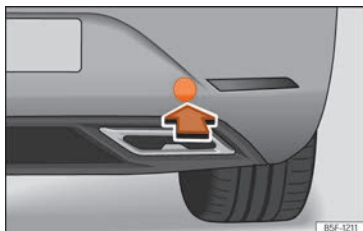

Fig. 53 On the right side of the rear bumper: remove the cover.
The housing of the screw towing eye is on the right side of the rear bumper behind a lid » **Fig. 53**.
- Press the bottom side of the lid » **Fig. 53** to unclip it.